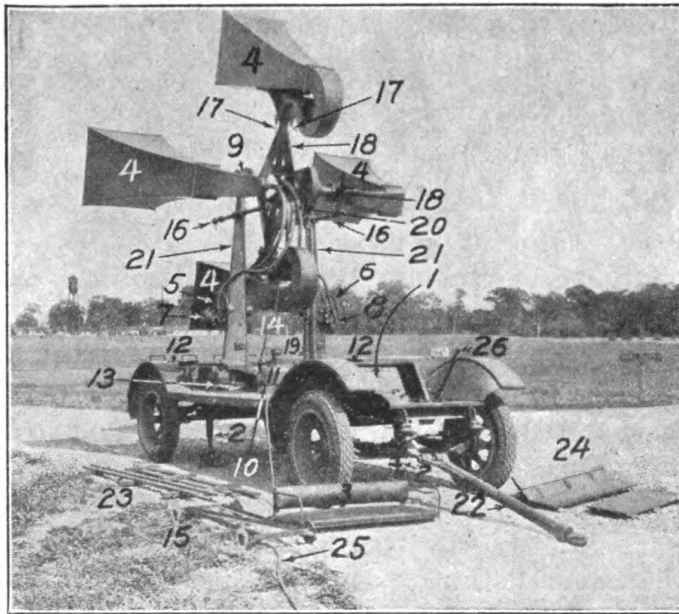

FIGURE 19.—Sound locator M1A1.
- (3) Listener's helmet.
- (4) A mounting for the horns so that the locator may be moved in azimuth and elevation by handwheels.
- (5) An acoustic corrector to correct for sound lag.
(6) A data transmission system to send corrected data to the searchlight so it may be pointed correctly.
Q. Point out and give purpose of the parts of an M1 series sound locator. *A.* See figure 19.